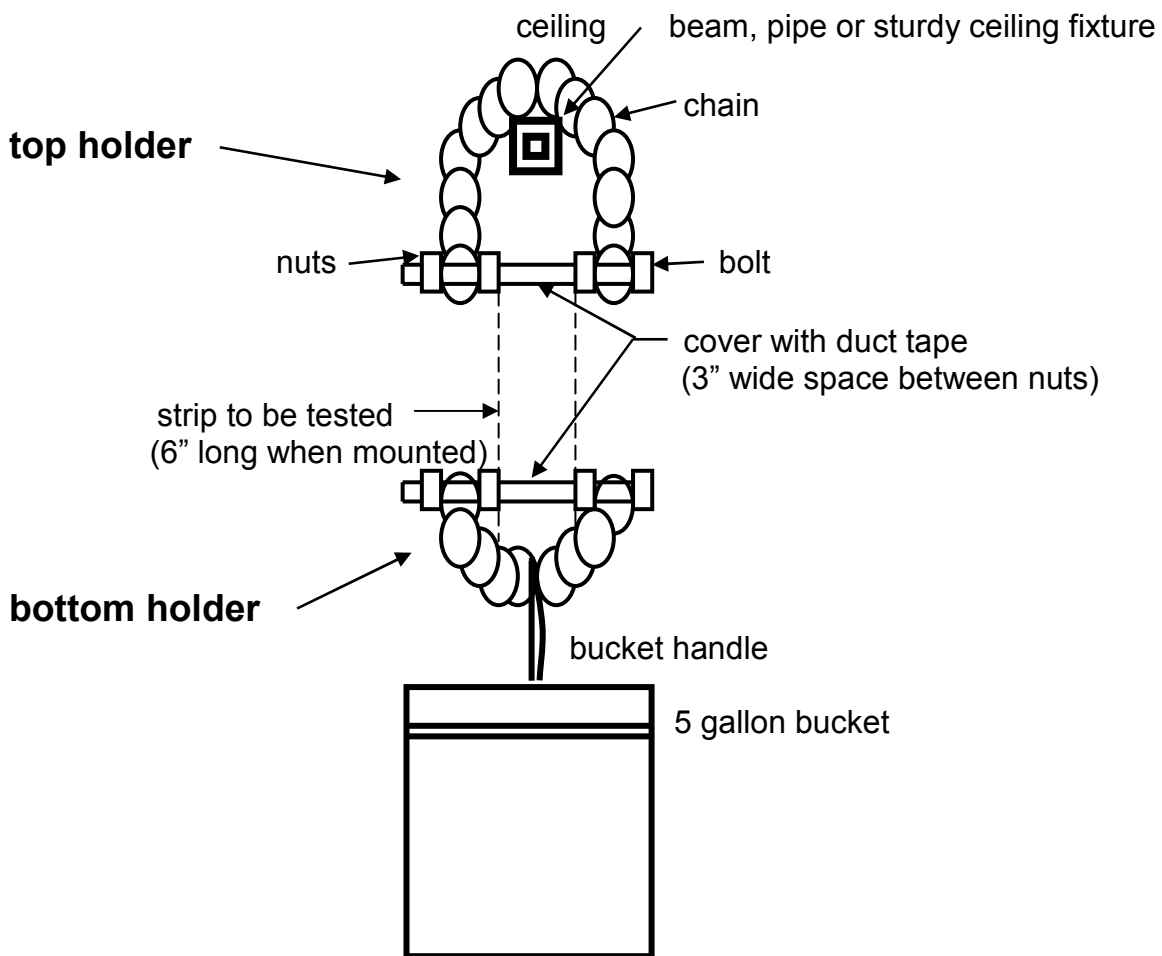

Figure 1: Assembly of Tensile Testing Station
- 1) To make the top holder, loop the chain around something sturdy on the ceiling and cut it so the two ends will be hanging at a comfortable level off the floor (see Figure 1). Slide a bolt through one of the bottom links of the chain and secure the chain against the head of the bolt with one of the nuts; this will clamp the chain in place.
- 2) The bottom holder is made the same way, except you only need an 8" length of chain which you will put through the handle of the bucket (see Figure 1). One trick to help reduce the bucket sliding is to ensure an odd number of links in the bottom chain.